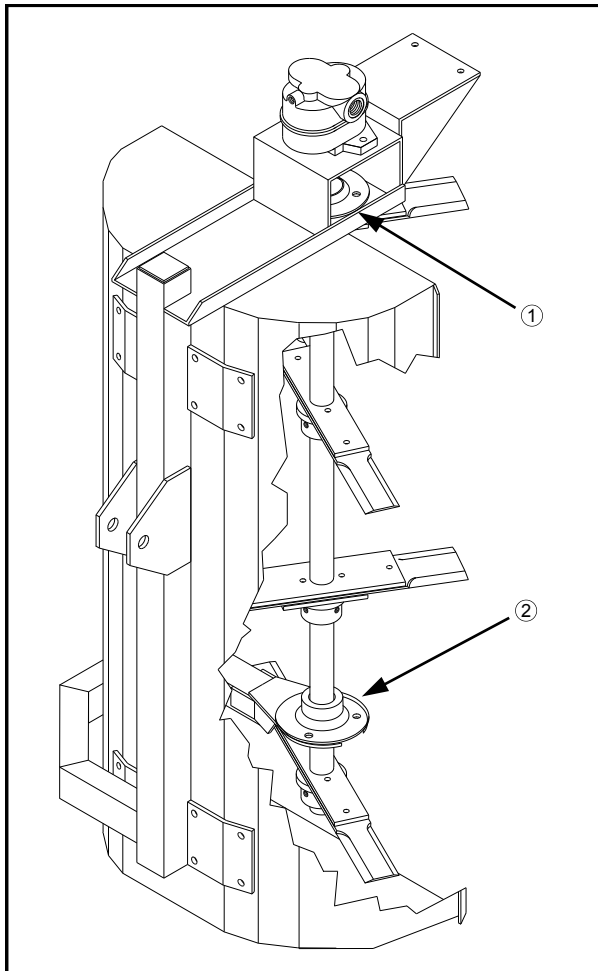

FIG 7.40
Grease both upper (fig. 7.40, item 1) and lower (fig. 7.40, item 2) shaft bearings 4 times a day. Suggested times are morning, mid-morning, noon, and mid-afternoon.